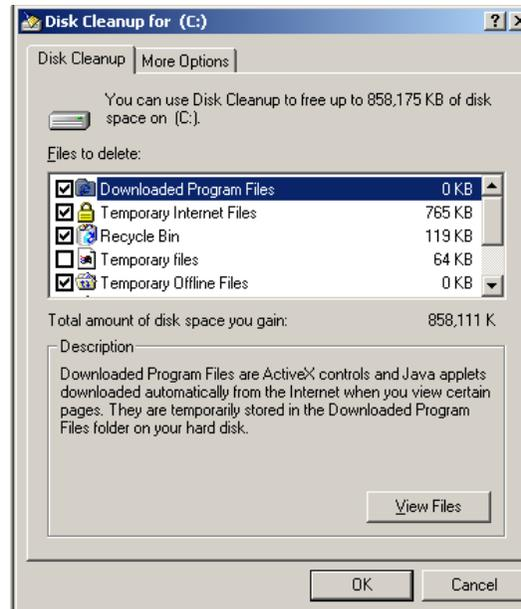

Figure 63 Disk Cleanup for (Selected Drive)
3. When Windows finishes calculating the cleanup it displays the **Disk Cleanup for** dialog box. See Figure 63. Check or uncheck